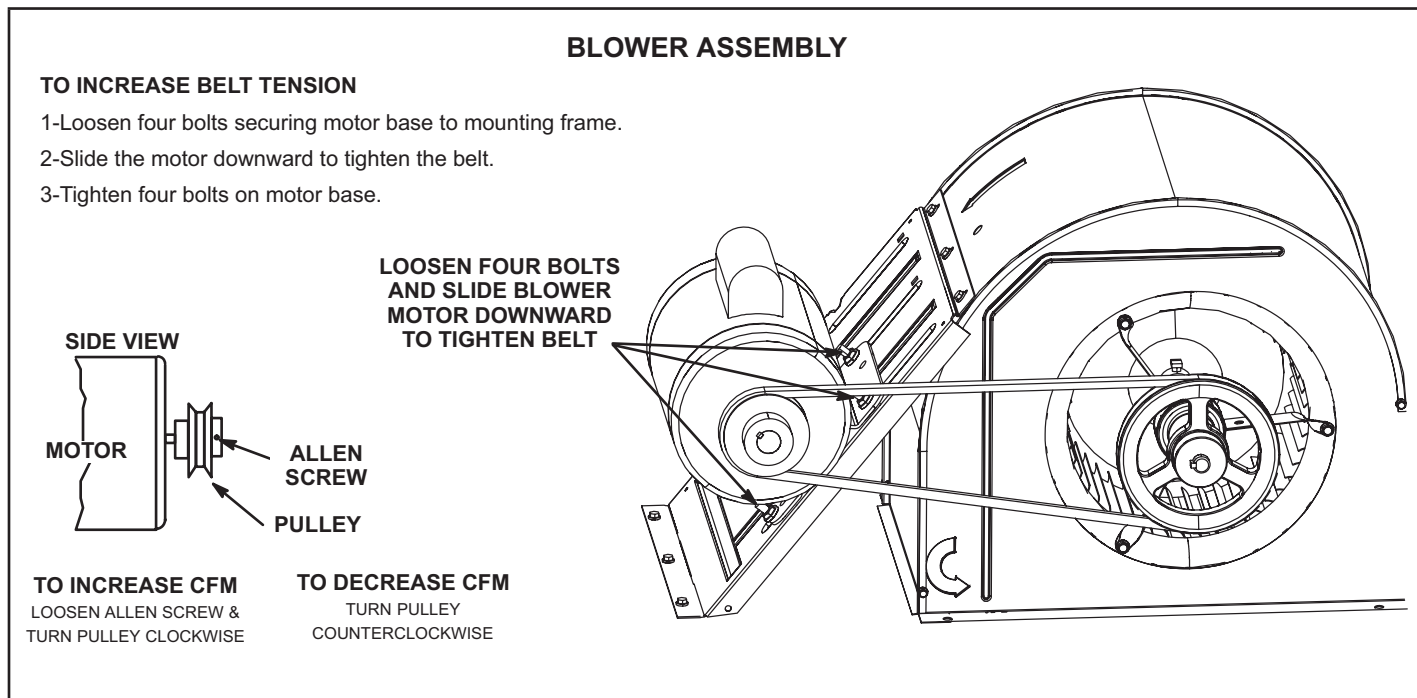

FIGURE 9
- 3 - The blower RPM can be adjusted at the motor pulley. Loosen Allen screw and turn adjustable pulley clockwise to increase CFM. Turn counterclockwise to decrease CFM. See FIGURE 9. Do not exceed minimum and maximum number of pulley turns as shown in TABLE 7.
- 1 - Loosen four bolts securing motor base to mounting frame. See FIGURE 9.